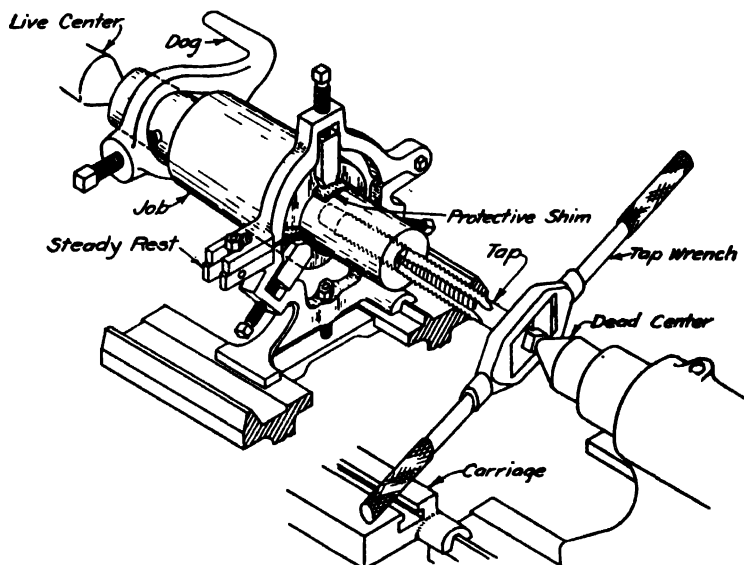

Fig. 17-13. Tapping in the lathe.
*Hand Tapping in a Lathe (Fig. 17-13)*
7. Place the threaded end of the tap in the hole; adjust the tailstock center in the hole in the square end of the tap (Fig. 17-13).